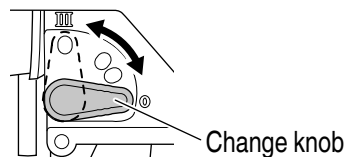

Fig. 11
- (1) This Jig Saw employs orbital operation which moves the blade back and forth, as well as up and down. Set the change knob shown in Fig. 11 to "0" to eliminate the orbital operation (the blade moves only up and down). The orbital operation can be selected in 4 steps from "0" to "III".
- (2) For the hard material, such as a steel plate, etc., decrease the orbital operation. For the soft material, such as lumber, plastic, etc., increase the orbital operation to increase work efficiency.